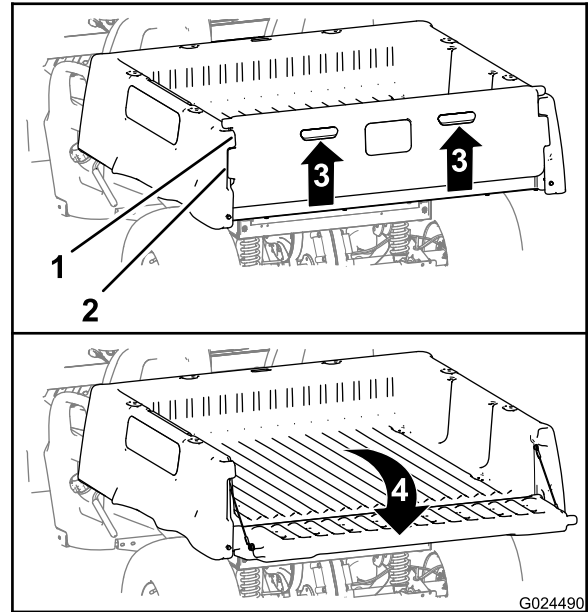

Figure 13
2. Lift up on the finger pulls at the back panel of the tail gate (Figure 13).
3. Align the lock flanges of the tailgate with the openings between the tailgate flanges of the cargo box (Figure 13).
4. Rotate the tail gate rearward and down (Figure 13).
- Rotate the tailgate up and forward until the lock flanges of the tailgate are flush with the tailgate pocket in the cargo box (Figure 13).
- Lower the tailgate until it is seated in the back of the cargo box (Figure 13).